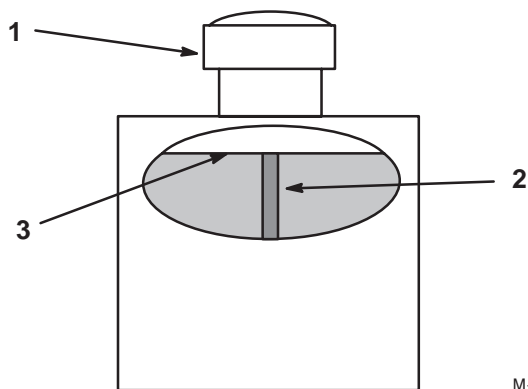

Figure 11
2. Clean area around filler neck of hydraulic tank (Fig. 11).
3. Remove cap from filler neck. Look inside to check if there is fluid in the reservoir. (Fig. 11).
Note: Fluid level should be to the top of the baffle when fluid is warm (Fig. 11).